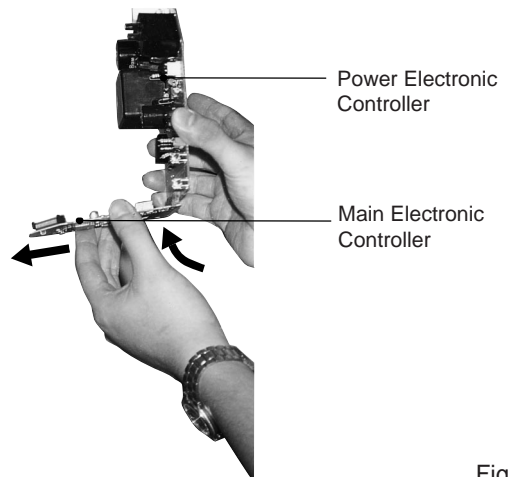

Fig. 16
4. Bend the 2 electronic controller in 'L' shape as shown in Fig. 16 and release the main electronic controller from the power electronic PCB.